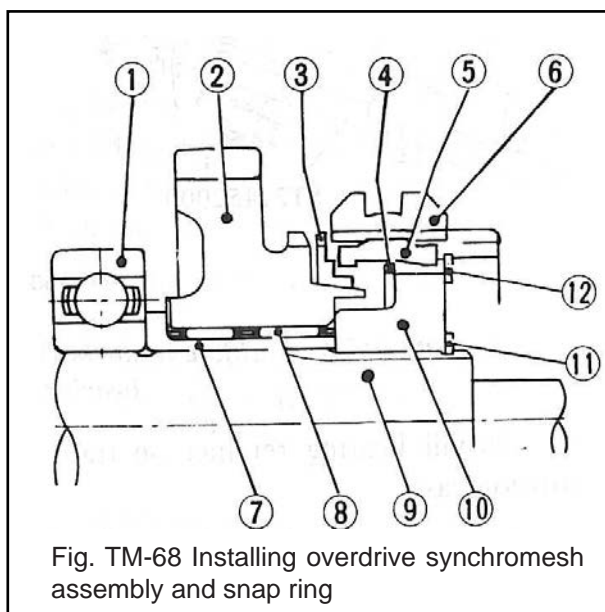

Fig. TM-68 Installing overdrive synchronesh assembly and snap ring
Overdrive gear needle roller bearing, overdrive gear, baulk ring, overdrive shift fork and overdrive synchromesh assembly. See figure TM-68.
(5) Select a snap ring of suitable thickness so that the minimum clearance between overdrive gear bushing and overdrive synchronizer hub is obtained, and fit it in the groove of countershaft rear end. See Figure TM-68.